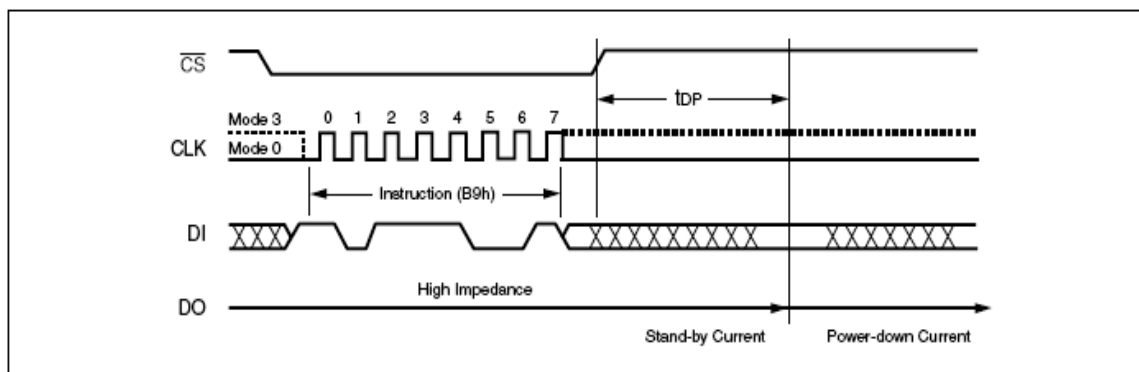

Figure 15. Deep Power-down Instruction Sequence Diagram
The instruction sequence is shown in Figure 15..Chip Select (CS#) must be driven High after the eighth bit of the instruction code has been latched in, otherwise the Deep Power-down (DP) instruction is not executed. As soon as Chip Select (CS#) is driven High, it requires a delay of t_{DP} before the supply current is reduced to I_{CC2} and the Deep Power-down mode is entered.